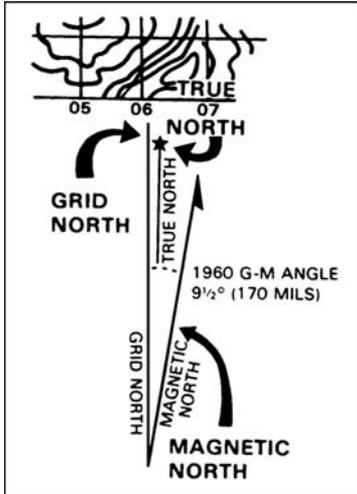

Figure 071-329-1009-1. Declination diagram
1. The North-South lines on your map give grid north. The needle of your compass points to magnetic north. Grid north and magnetic north usually differ by a few degrees. Neither points straight to the North Pole (called true North). However, you need not know true North to keep from getting lost in a combat area. The difference in degrees for every map is shown on the bottom of map sheet (figure 071-329-1009-1).
2. The difference between grid north and magnetic north is called the grid-magnetic (G-M) angle. The diagram at the bottom of the map tells you how to change grid azimuths to magnetic azimuths and magnetic azimuths to grid azimuths (figure 071-329-1009-2). For example, you aim your compass at a distant point. The compass reading you get is 190 degrees, the magnetic azimuth. The diagram on your map (figure 071-329-1009-2) tells you that the G-M angle is 9 degrees, and it also tells you that "to convert a magnetic azimuth to a grid azimuth, add the G-M angle." Therefore add 9 degrees to your compass reading. This gives you  $190+9=199$ . Your grid azimuth is 199 degrees.